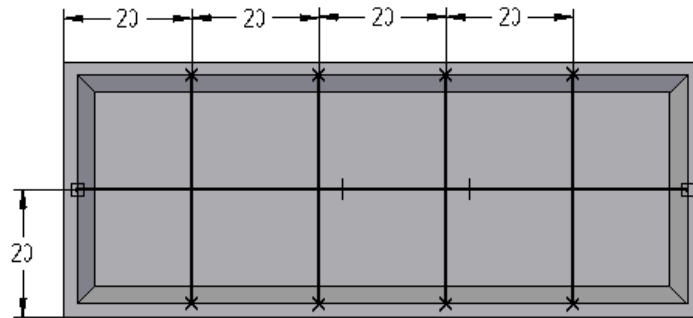

Figure 8-68 Sketch for the web network
- Create a web network in the model, refer to Figures 8-68 and 69.
3. Draw the profile of the web network, as shown in Figure 8-68.